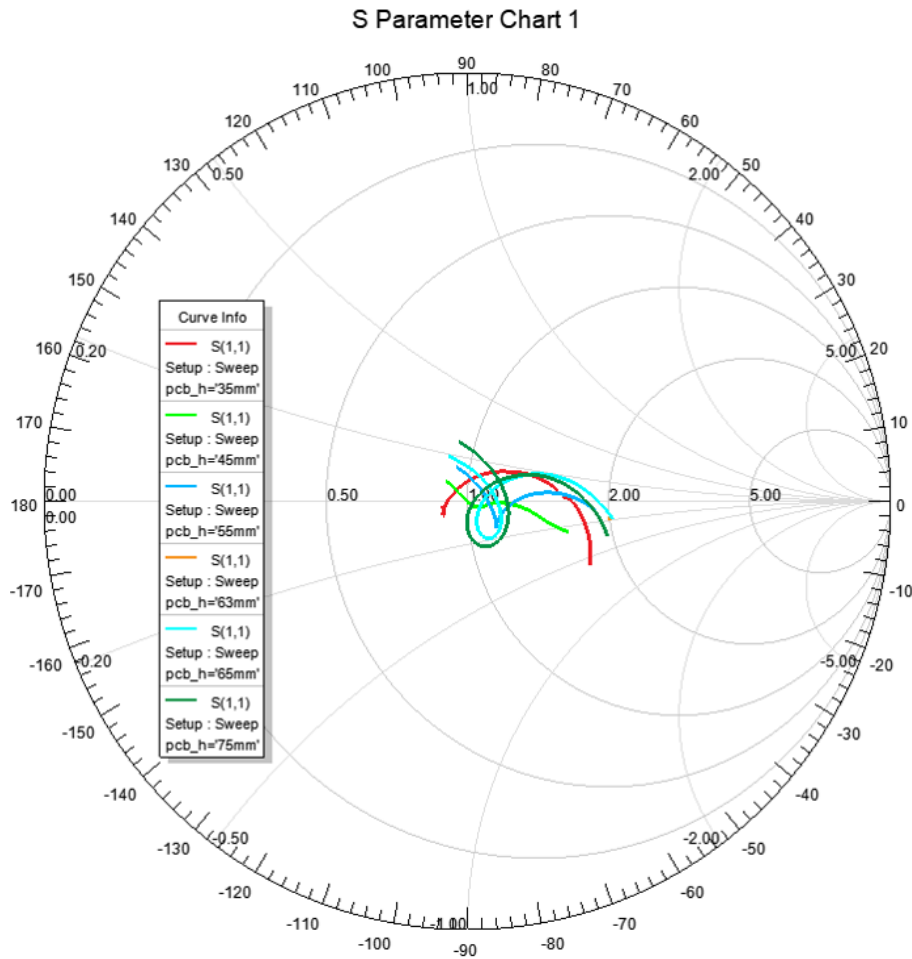

Figure 18. pcb_h Parameter Chart
- pcb_h Parameter Chart (Figure 18)